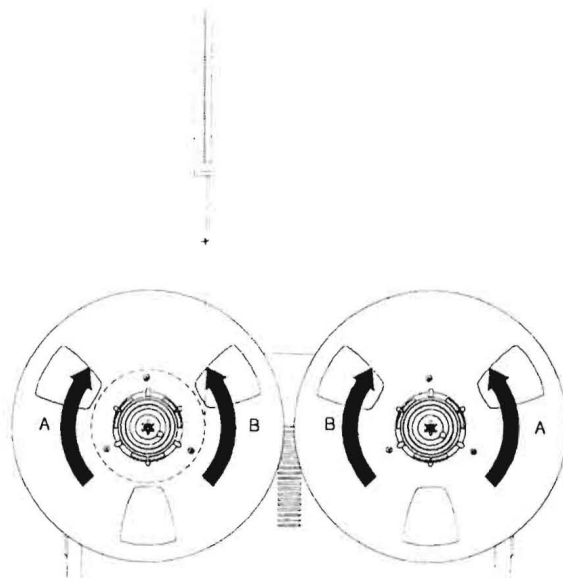

Figure 6-1
5. Hold the spring scale upright as shown in Figure 6-1.
6. Pull on the scale slowly to make the reel rotate counterclockwise (direction B in Figure 6-1). While making sure that the cable does not rub against either flange, note the scale reading.